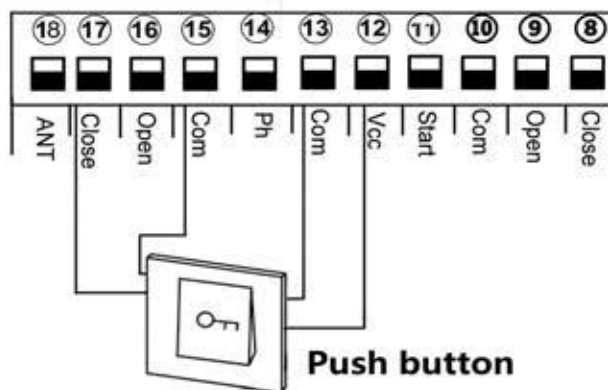

Fig 14
6.8.Connect to close device. Fig 14